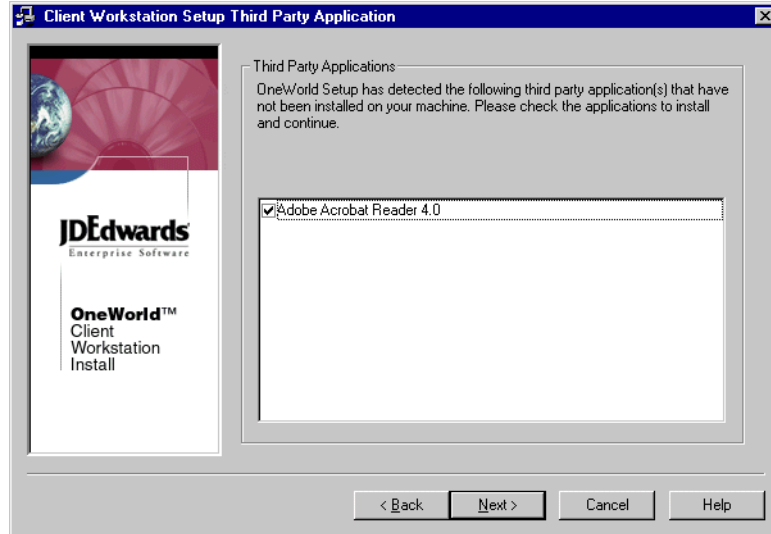

Figure 97. Client Workstation Setup Third Party Application installation
12. If you do not have the latest versions of Microsoft Internet Explorer or Adobe Acrobat Reader installed, the OneWorld Client Workstation Setup Third Party Application form appears, similar to the example in Figure 97. Complete the following steps: